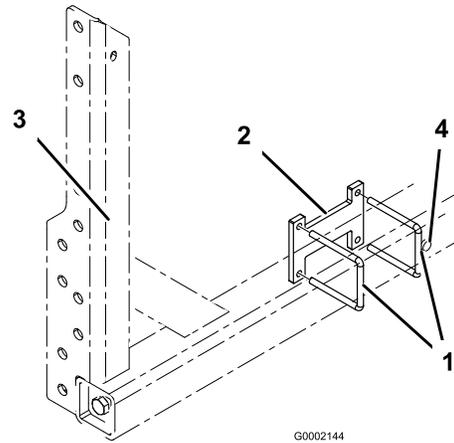

Figure 2
1. Install 2 U-bolts, and a spacer to the boom frame as shown in Figure 2. Position the assembly forward